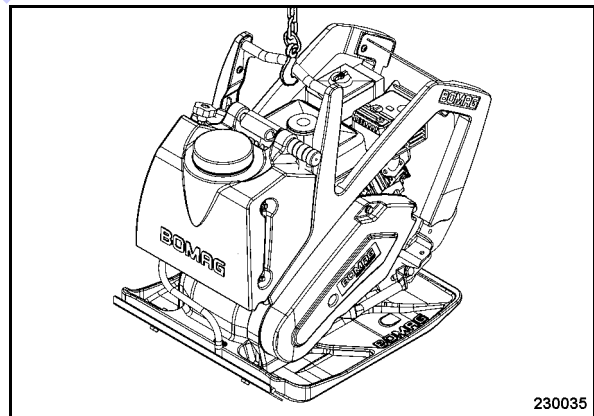

Fig. 31
- Attach the lifting tackle to the cross-strut to load the vibratory plate on a transport vehicle (Fig. 31).